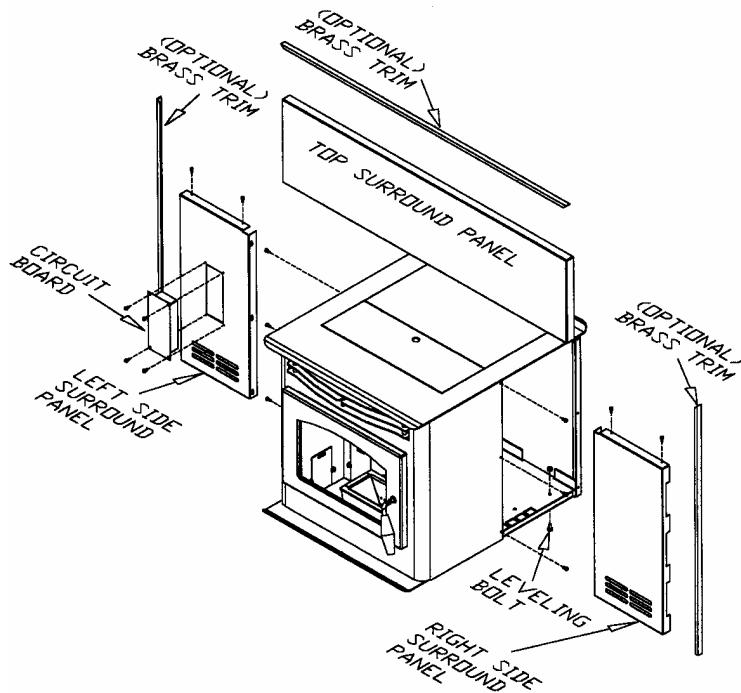

FIGURE 15
Follow the instructions packaged with the P22 Flashing set part C-P22-MED (refer to Figure 15).
4. Attach flashing (refer to Figure 15), route power cord out the side nearest a 120V receptacle. Slide in insert.
6. Attach flashing (refer to Figure 15), route power cord out the side nearest a 120V receptacle. Slide in insert.